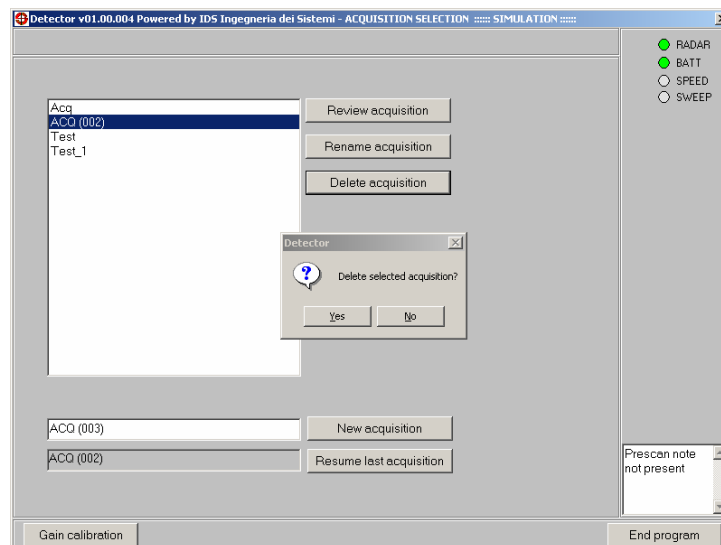

Fig. 5-13 – Deleting a survey
- Any of the surveys saved on the computer can be deleted by pressing the  button; select the survey name and press the delete button, the software requests you to confirm your choice (Fig. 5-13).
➤ Press the  button to close the editing application, the window shown in Fig. 5-13 will reappear.